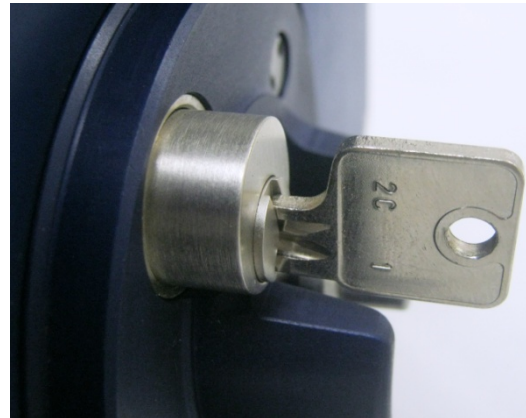

Figure 16
- When the Lock is completely unlocked approximately 9mm of the Lock will protrude from the body (Fig. 16). If the lock is not completely locked the Guide Tube cannot be connected or disconnected.